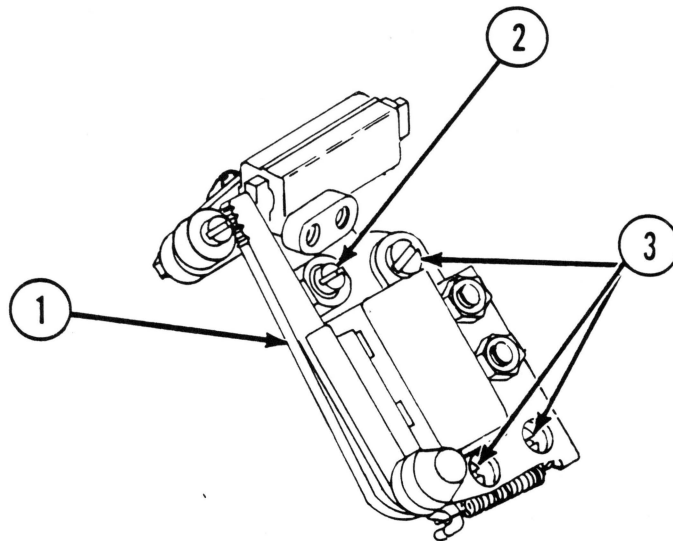
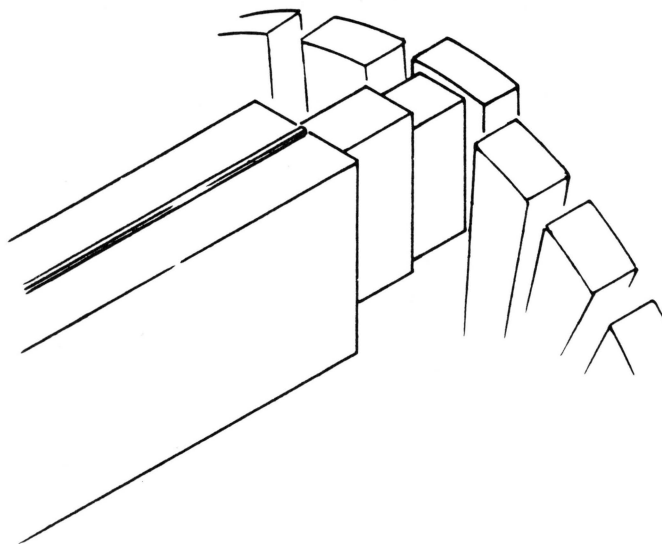

FIGURE 12
FIGURE 13
4. Push the hammer armature against the coil pole pieces (see Figure 12, #1). With armature held against coil pole pieces, check that the hammer is deflecting a printwheel spoke about half the thickness of a spoke. Check this measurement at several locations around the printwheel (see Figure 13). If penetration is misadjusted, follow the steps below.
1. With flat blade screwdriver, loosen the three armature penetration screws (see Figure 12, #3).